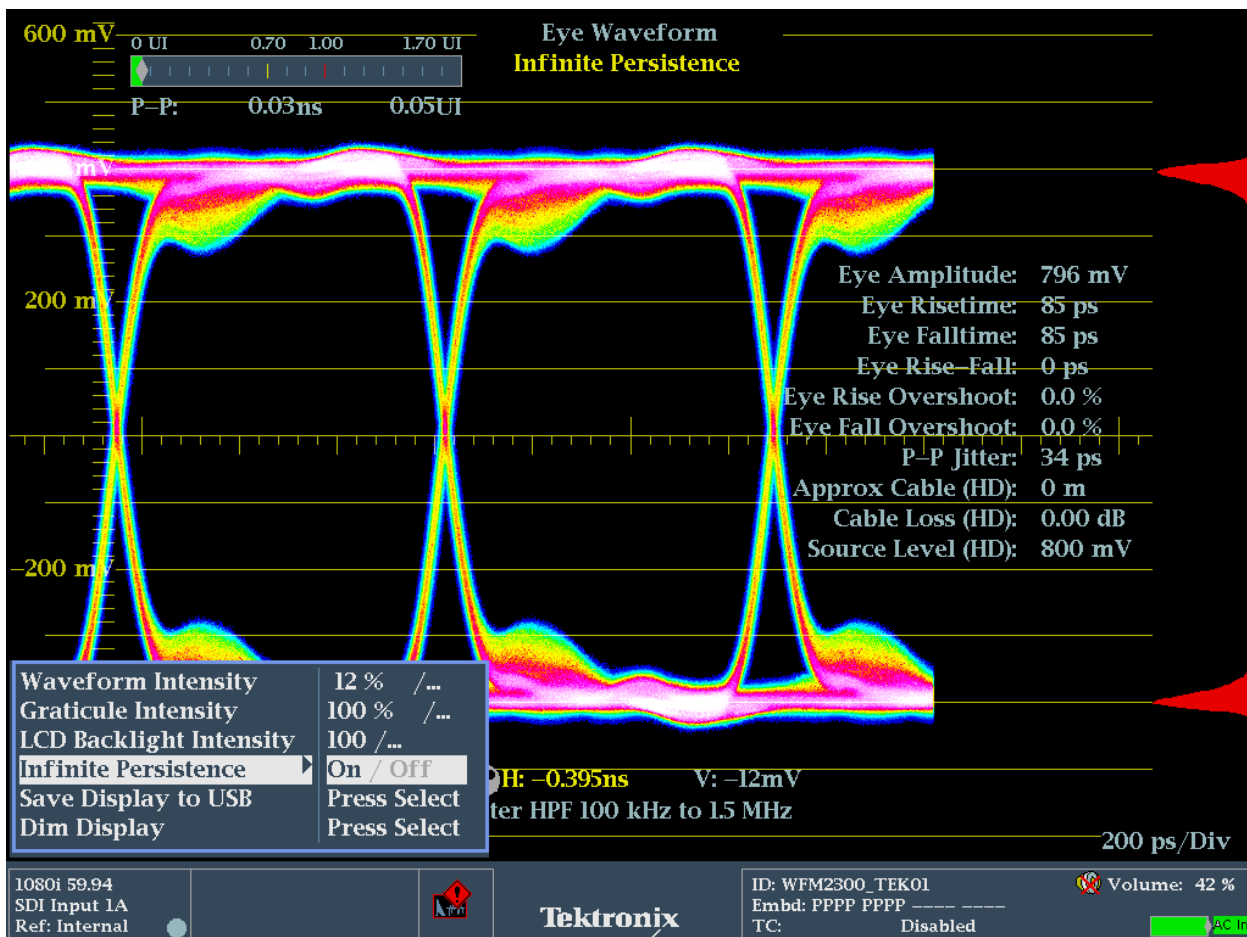

Figure 14. Enabling Infinite Persistence within Display menu.
5. Press **SEL** to toggle the function **On** as shown in Figure 14